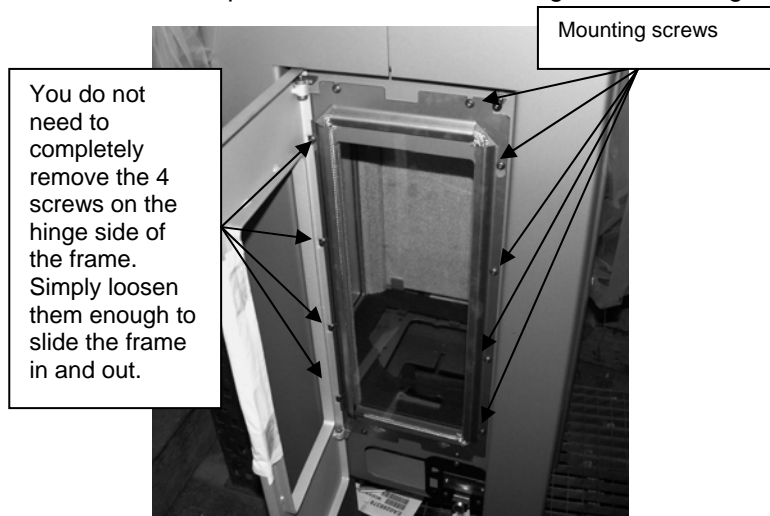

Figure 17: Glass frame mounting screws
2. Remove the 12 mounting screws (see *figure 17*) that attach the frame and glass to the firebox. (Be careful as you remove the last screws, as the frame will be loose and will want to fall)